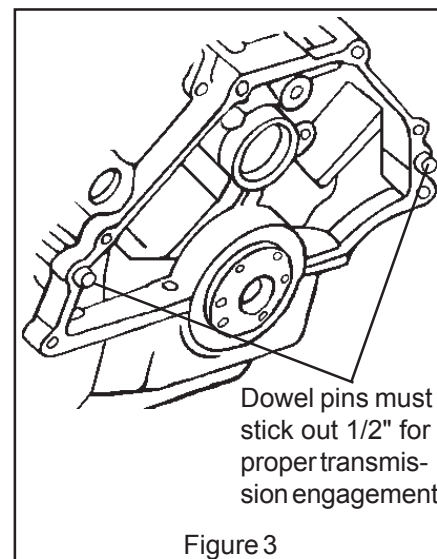

Figure 3
**STEP 12.** Inspect your engine block and engine plate. Make sure there are no burrs that will prevent the transmission from bolting down flat against the engine. File off any burrs that may be present. Dowel pins should stick out of the engine block a **minimum** of 1/2" for proper alignment. (See Fig. 3) Insufficient dowel pin engagement can cause front seal and/or bushing failure due to improper engine/transmission alignment. **Bellhousing bolts alone will not align the transmission properly.**